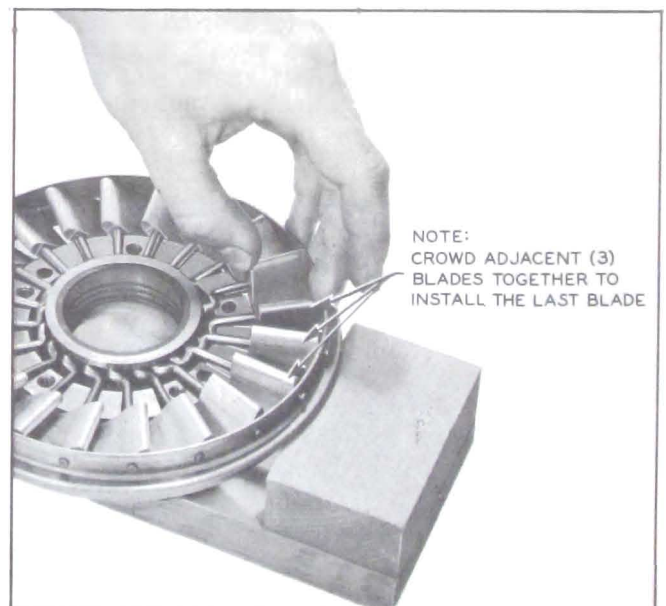

Figure 5-59—Inserting Last Blade
6. To insert the last blade it will be necessary to tilt the adjacent 3 blades. See Figure 5-59.